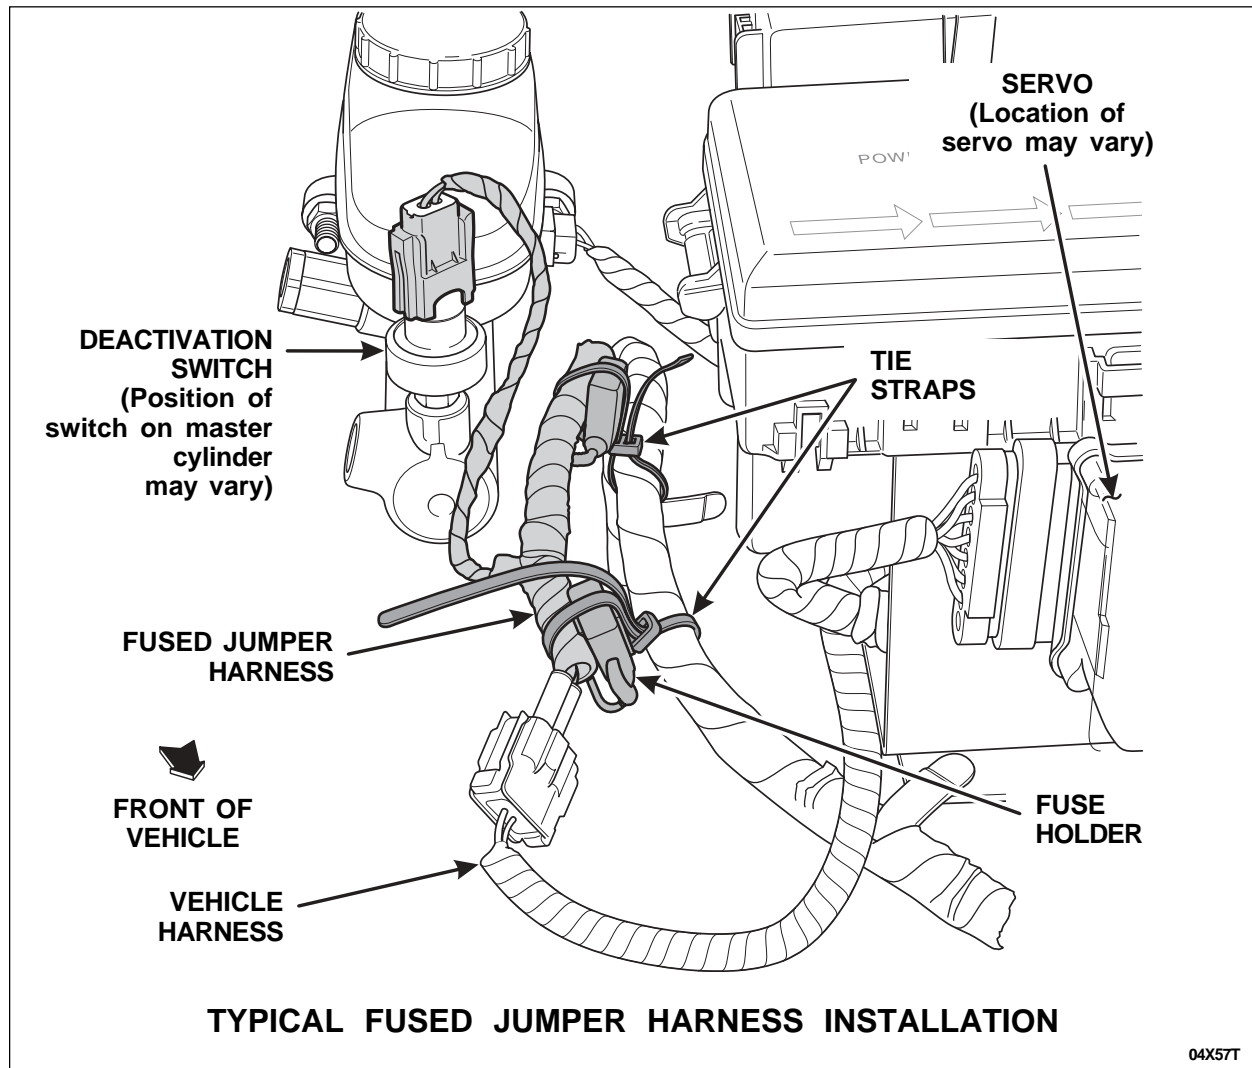

FIGURE 4
2. Secure the jumper harness to the existing harness with tie straps, making sure the fuse holders are positioned vertically with the cap facing upward. Wrap the tie straps underneath, then over the top of the existing harness and verify proper fuse holder orientation. See Figure 4.